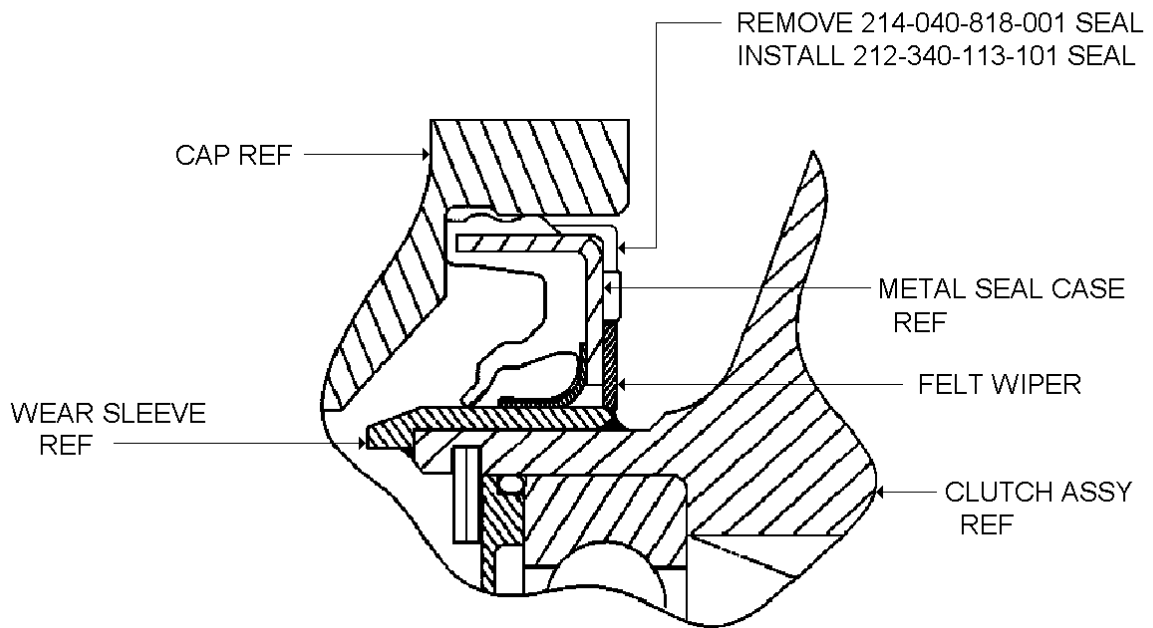

FIGURE 1
1. The main input quill repair and reassembly instructions contained in Chapter 66 of the BHT-214B-CR&O-1 may be used for the installation of the new P/N 212-340-113-101 seal in the P/N 214-040-026-101 Input Quill Assembly except as noted below (see Figure 1):